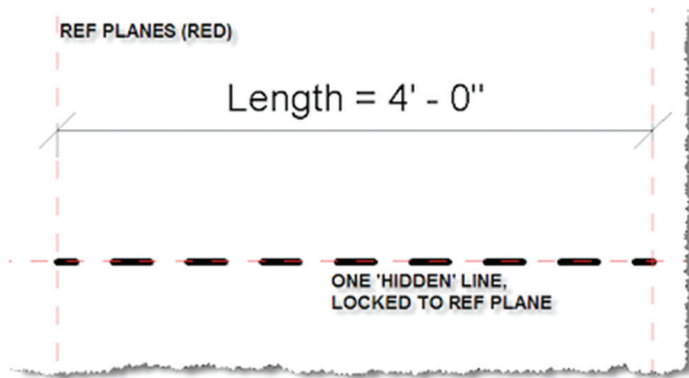

Figure 3
4. Lock it to the REF PLANES (Figure 3).